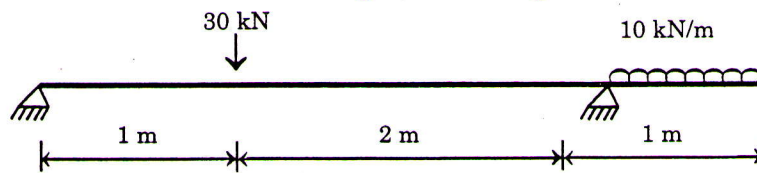

Fig. 1.
- III. (a) Draw the shear force and Bending Moment diagram for the beam shown in Fig.1.